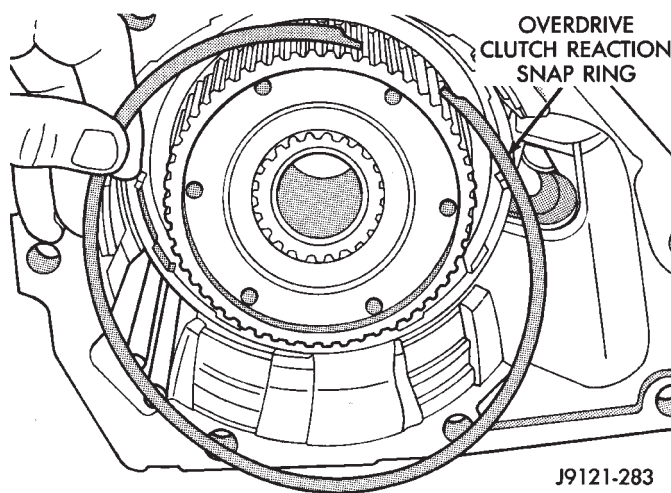

Fig. 8 Removing Overdrive Clutch Reaction Snap Ring
(8) Remove overdrive clutch reaction snap ring (Fig. 8). Note that snap ring is located in same groove as wave spring.